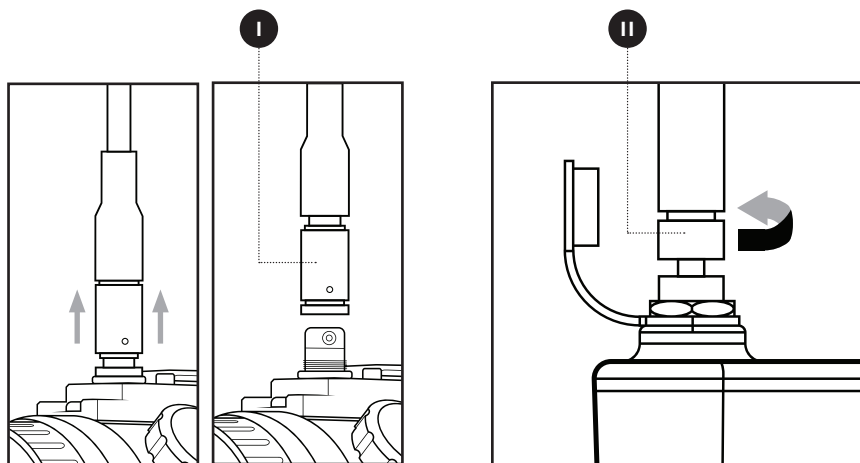

FIGURE 4:
1. Refer to **FIGURE 4**. With one hand gripping the device, pull the **SLEEVE** on the **CAMERA CABLE CONNECTOR** upwards away from the camera. With the sleeve in the upward position, pull on the **CAMERA CABLE CONNECTOR** until it releases from the device.